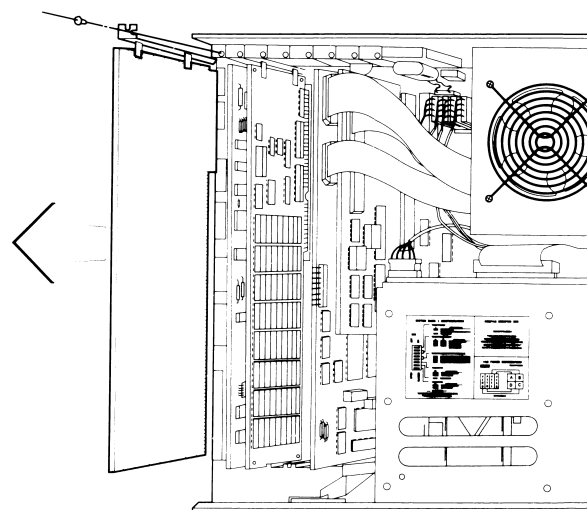

Figure 7-21. Removing an Expansion or Controller Board.
7. Gently pull the board(s) out of the connector(s) on the system board (Figure 7-21).